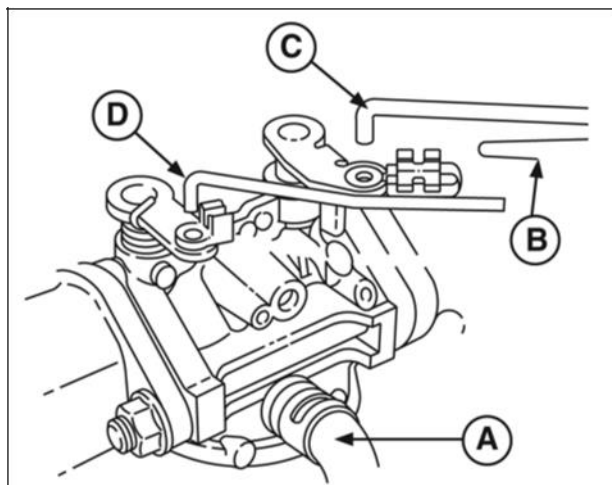

Figure 1
1. Disconnect fuel line (A, Figure 1).